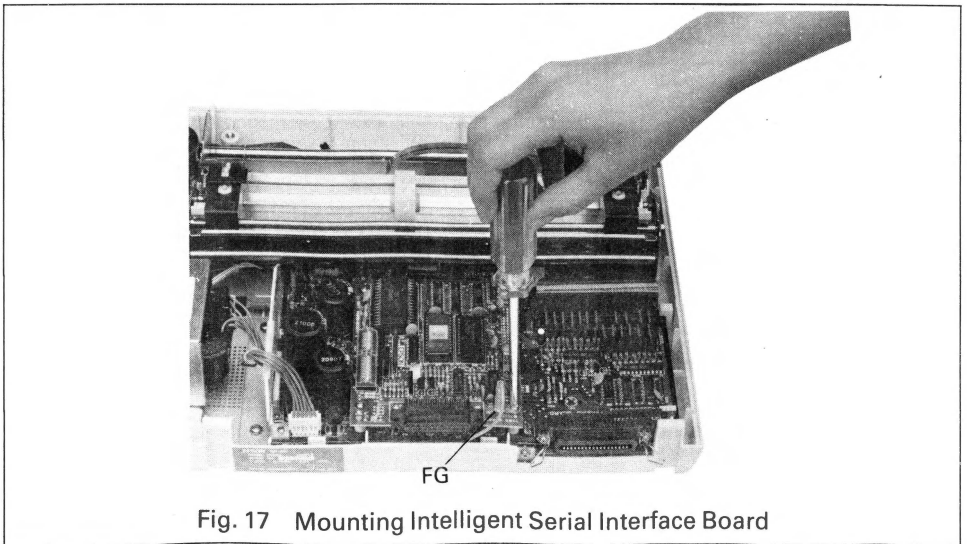

Fig. 17 Mounting Intelligent Serial Interface Board
- (3) Plug the connector of the Intelligent Serial Interface Board (Cat. No.8148) into the mating connector (CN3) on the control circuit board of the printer as shown in Fig. 17.
- (4) Secure the serial I/F board on the 3 poles with 3 mounting screws. (See Fig. 17.)